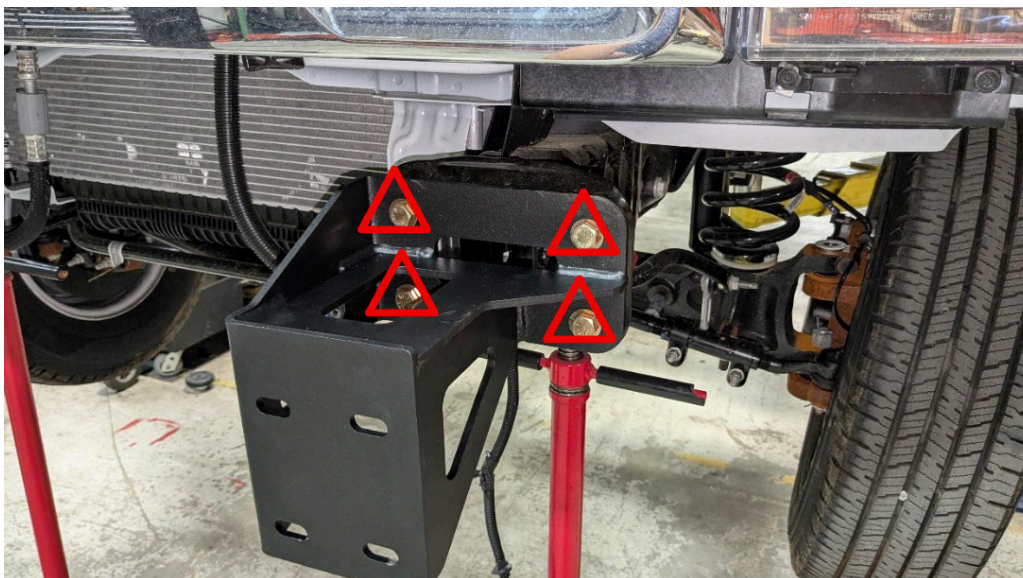

Figure 10
9. Using four (4) of the provided 1/2"-13 x 1.5" bolts, flat washers, lock washers, and nuts to install the driver's side mount (Part#: 23454) to the driver's side frame horn. Figure 10